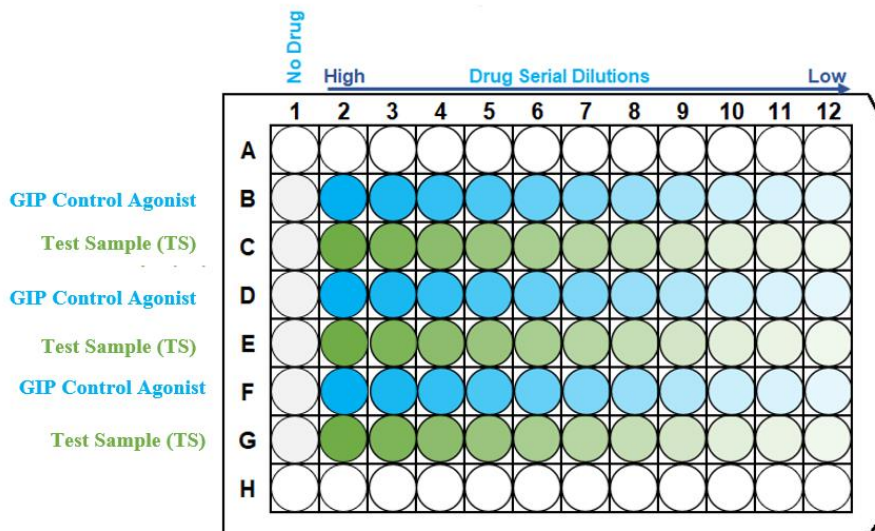

Figure 3. Representative Assay Plate Map
6. Transfer 15 μ L of the 3X sample dilutions from the MDP to the appropriate wells containing cells in the assay plate. Refer to **Figure 3. Representative Assay Plate Map**: